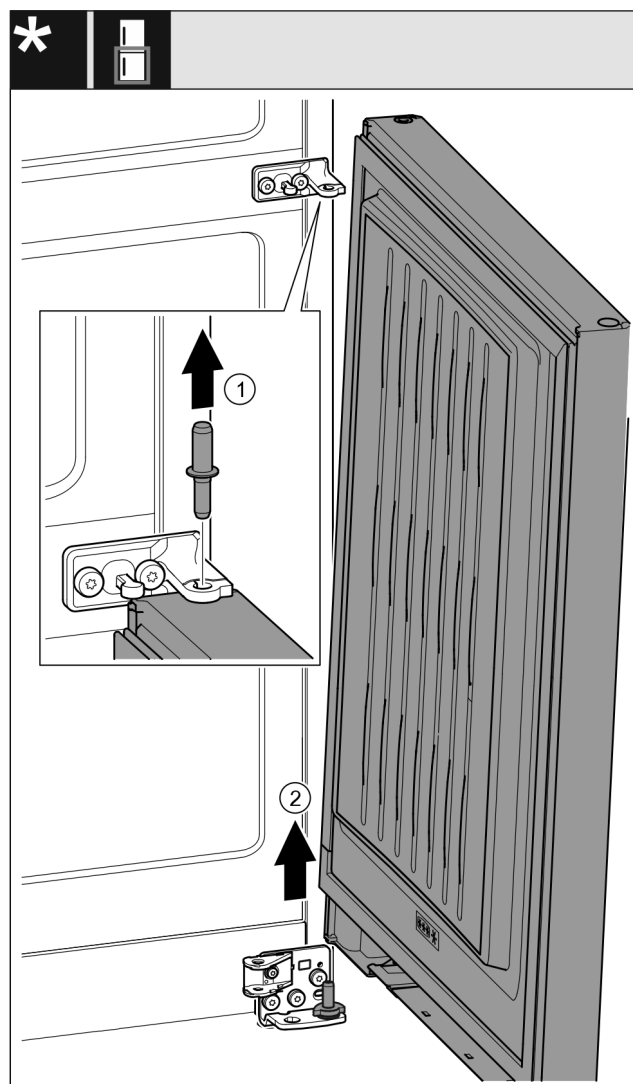

Fig. 26 *
- Pull out the bolt Fig. 26 (1) upwards.*
- Swing out the door Fig. 26 (2), pull it upwards and set it aside.*